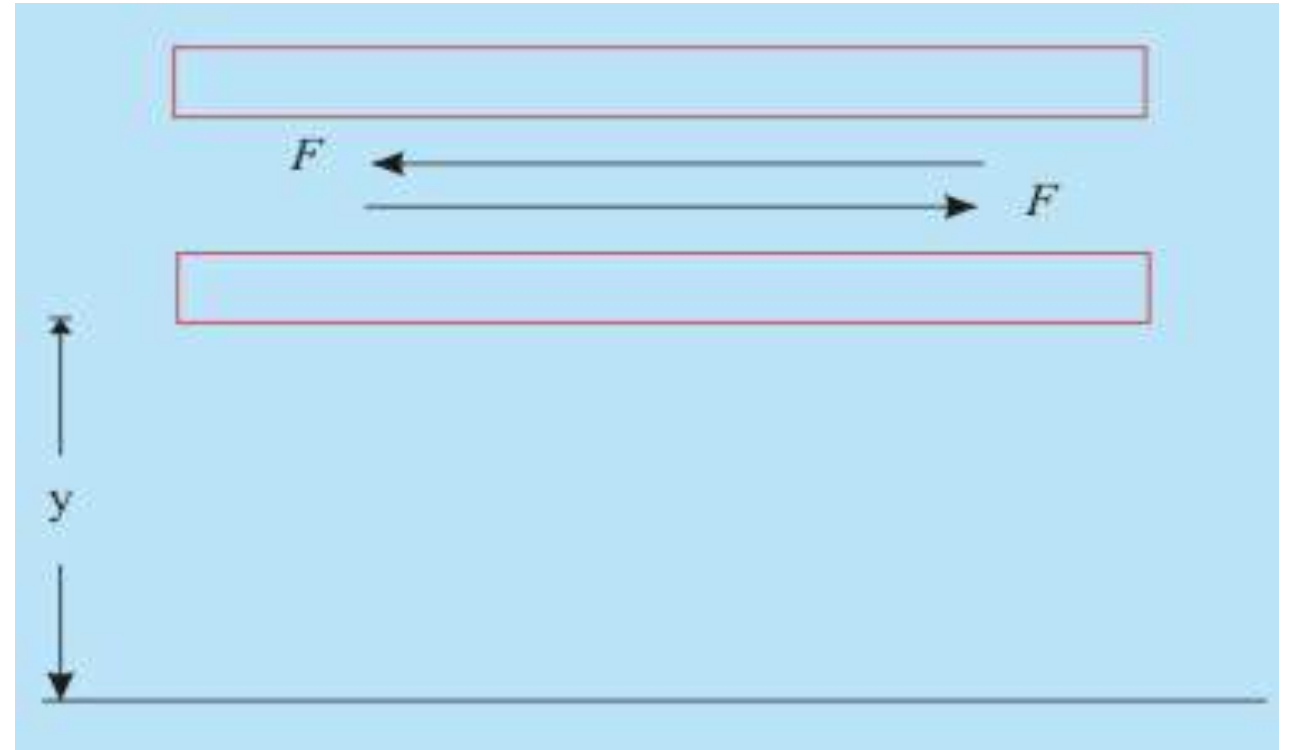

Fig 1.6 Two adjacent layers of a moving fluid.
- The upper layer, which is moving faster, tries to draw the lower slowly moving layer along with it by means of a force F along the direction of flow on this layer. Similarly, the lower layer tries to retard the upper one, according to Newton's third law, with an equal and opposite force F on it (Figure 1.6).